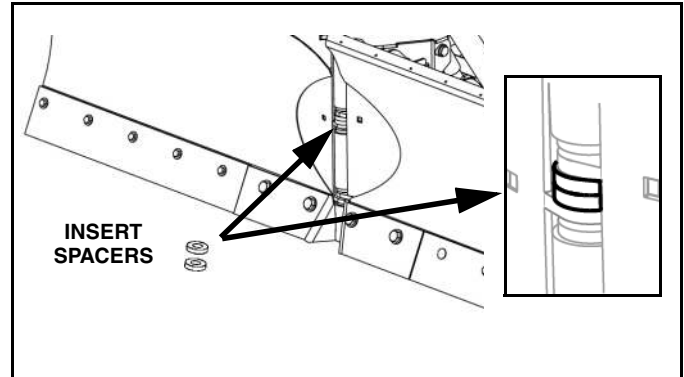

Figure 1-5
3. Insert two spacers (p/n 96112217) between the pivot point of both blade sections and the A-Frame assembly. (See Figure 1-5).